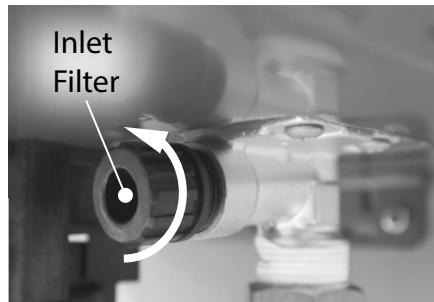

Figure 2 - Locate and remove inlet filter
- 8 Locate and remove the inlet filter as shown in Figure 2 to drain any residual water left in the system. Place a bucket or pan underneath inlet filter to collect water during removal.